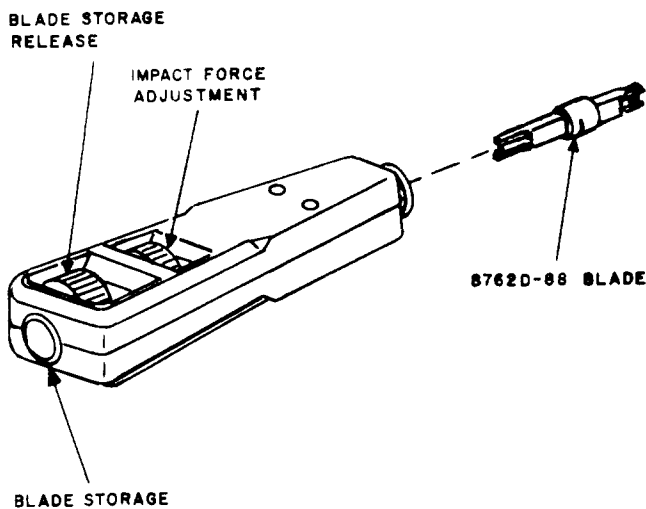

Fig. 14—D Impact Tool
**2.20** The D impact tool (Fig. 14) consists of a handle with an adjustable impact force and a cavity for storing an extra blade. Double-ended blades are available which permit insertion/cutoff or insertion only of single conductors on 88-, 66-, or 630-type connecting blocks. Two knurled wheels are provided in the tool handle—one to adjust the impact force depending on wire gauge and type of connecting block; the other to expose the opening for the extra blade storage. The D impact tool is used to cut off and/or seat single conductors on the connecting blocks.